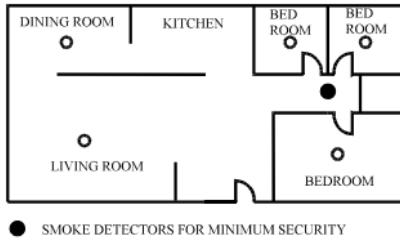

Figure 1: Locations for placing smoke detectors for single residence with only one sleeping area
- ◆ Install a smoke and heat detector in the hallway outside every separate bedroom area, as shown in Figure 1. Two detectors are required in homes with two bedroom areas, as shown in Figure 2.